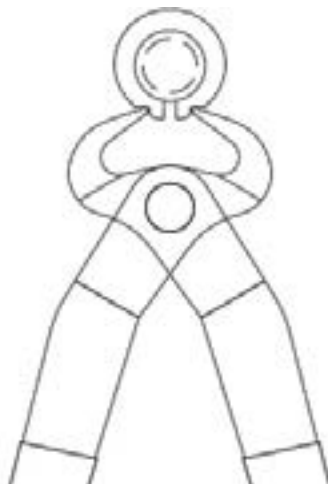

Fig. 4
- 1) Install – fit clip in groove squeezing firmly as fig. 4 – do not over-tighten as clip ends do not touch and there should be about a 0.050" gap.